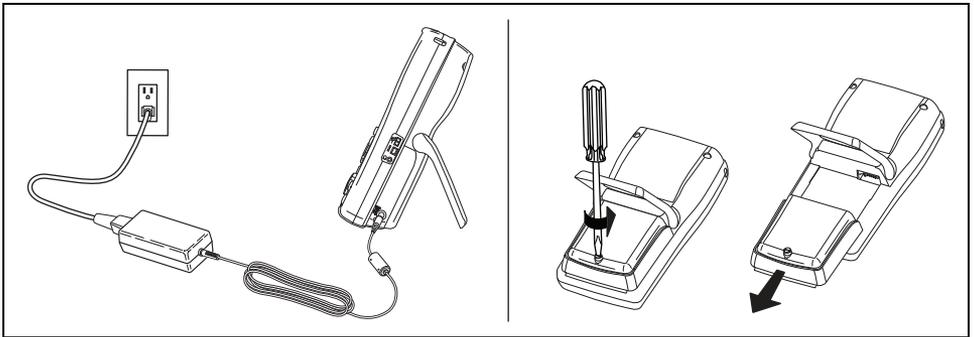

Figure 1. Charging the Battery (left) and Removing the Battery (right)
- You may charge the battery when it is attached or detached from the tester (Figure 1).